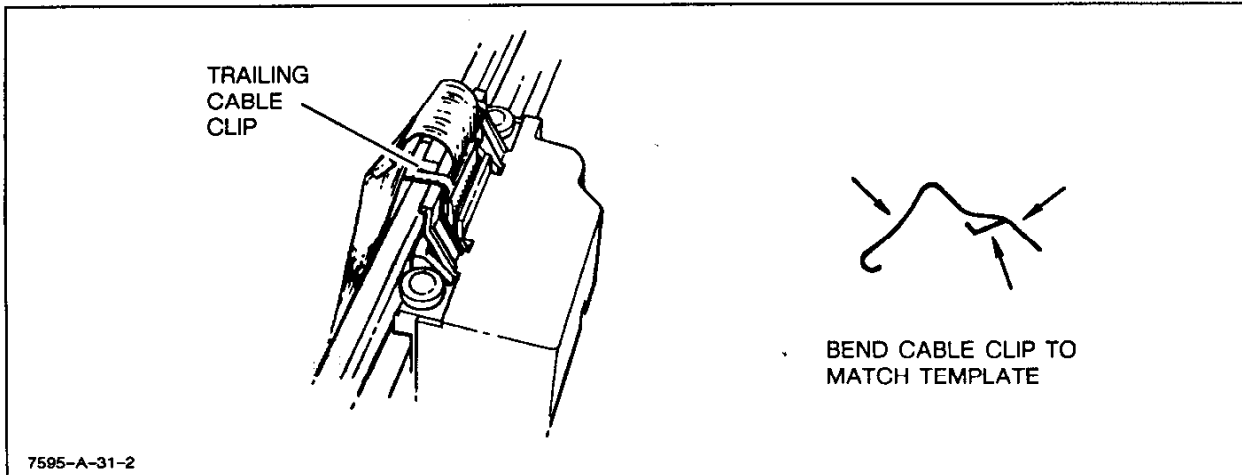

Figure 6-22. Trailing Cable Removal
- g. Grasp the back of the trailing cable clip. Pull back and lift the top of the clip from the cover. See Figure 6-22.
When installing the trailing cable clip, plug the trailing cable into the pen carriage and attach the clip hooks to the pen carriage cover. Grasp the back of the pen carriage cover and push the clip until both upper tabs snap in place. See Figure 6-22. Install the cover screws.
The trailing cable clip tabs must fully contact the carriage cover for Electrostatic Discharge (ESD) protection. To ensure full contact, use the template in Figure 6-22 for proper clip angle.